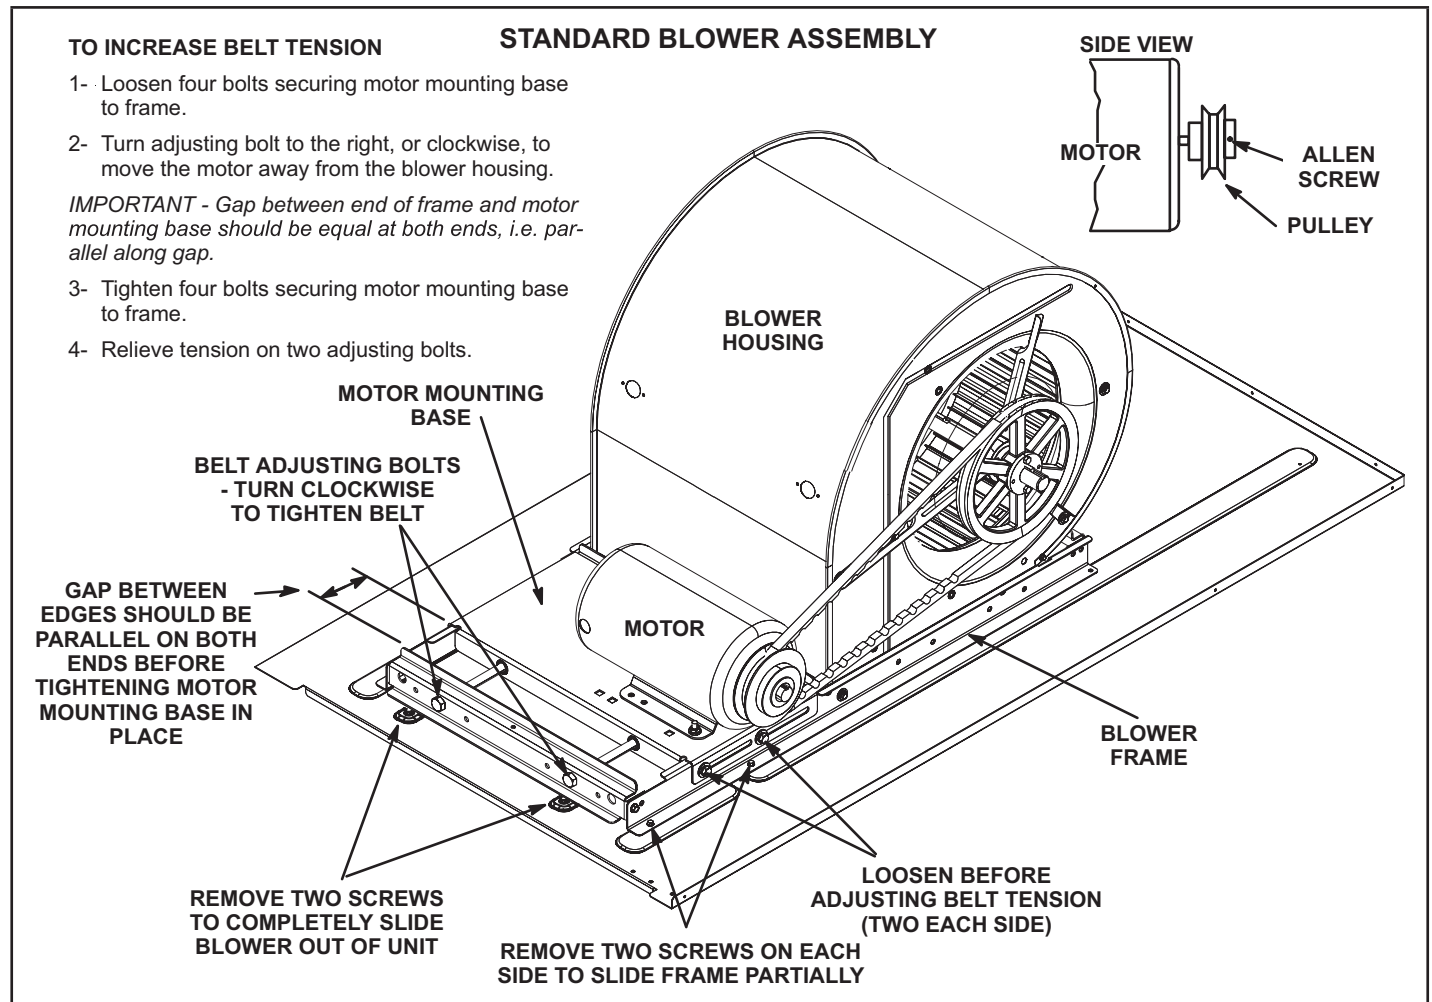

FIGURE 24
- 2 - Remove screws on either side of blower assembly sliding base. See FIGURE 24.
The blower assembly is secured to a sliding frame which allows the blower motor to be pulled out of the unit. See FIGURE 24.
- 6 - The blower RPM can be adjusted at the motor pulley. Loosen Allen screw and turn adjustable pulley clockwise to increase CFM. Turn counterclockwise to decrease CFM. See FIGURE 24. Do not exceed minimum and maximum number of pulley turns as shown in TABLE 7.
- 1 - Loosen four bolts securing motor base to mounting frame. See FIGURE 24.